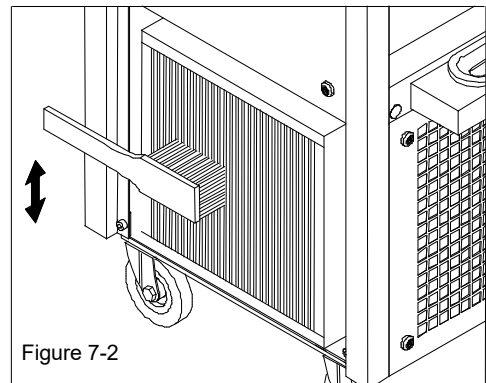

Figure 7-2
4. This machine is air cooled, check the condenser for an accumulation of dirt and lint. A dirty condenser will reduce the efficiency and capacity of the machine. Condensers should be cleaned monthly with a soft brush. Never use screwdrivers or other metal probes to clean between the fins. Failure to comply may result in electrocution. Figure 7-2